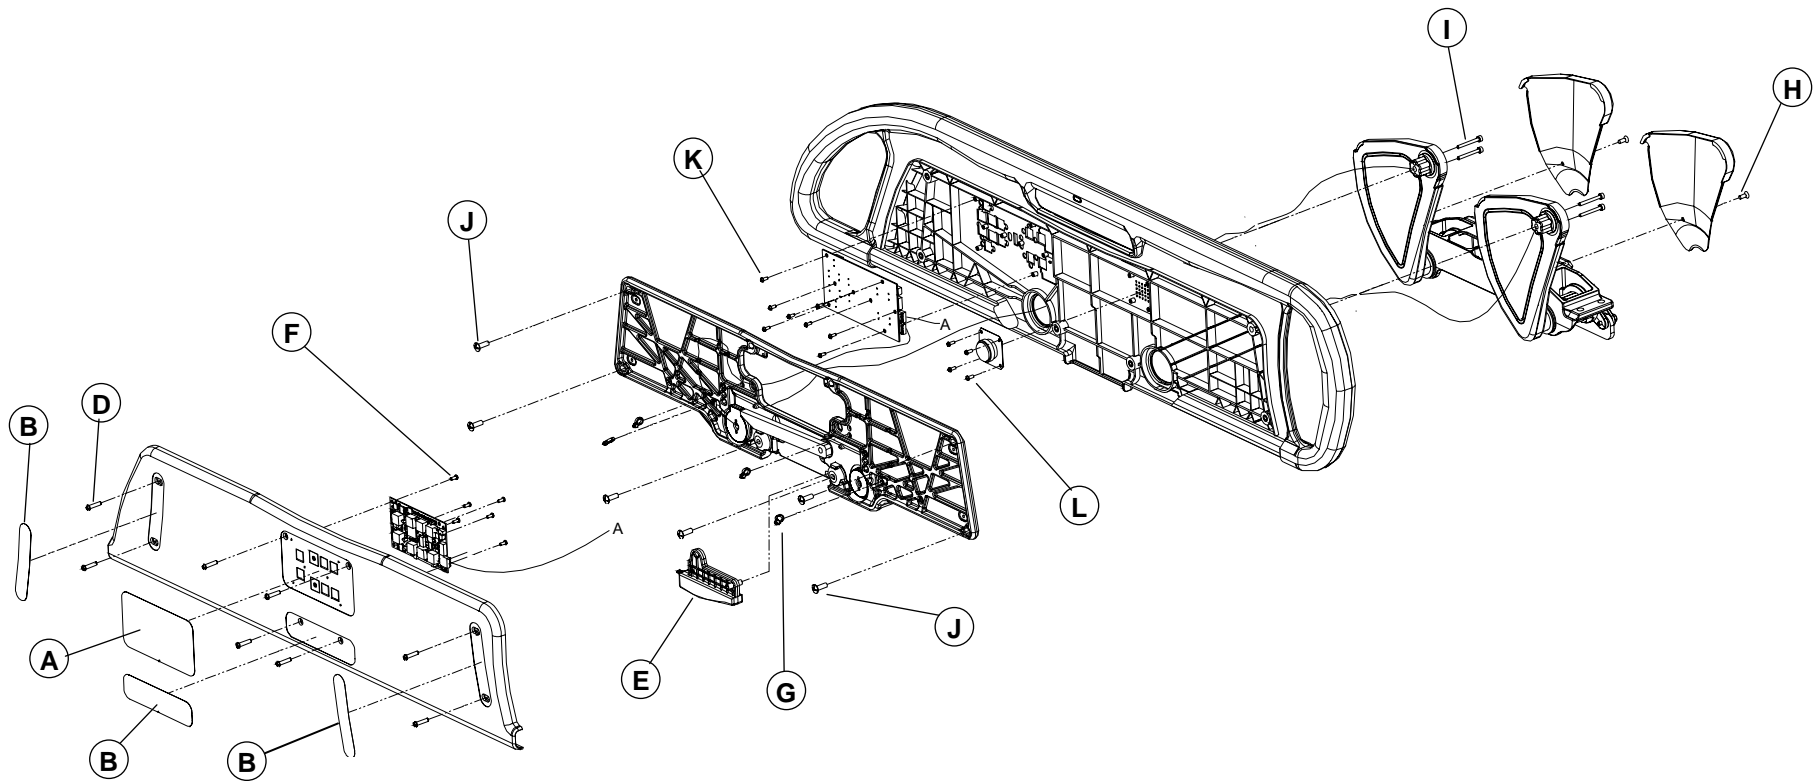

Figure 4.1C
Unless otherwise indicated, refer to figure 4.1C on page 21 for the illustration of this procedure reference points.
3. Using a no. 2 Phillips screwdriver, remove the four screws (L, fig. 4.1C, page 21) holding the speakerphone to the siderail.